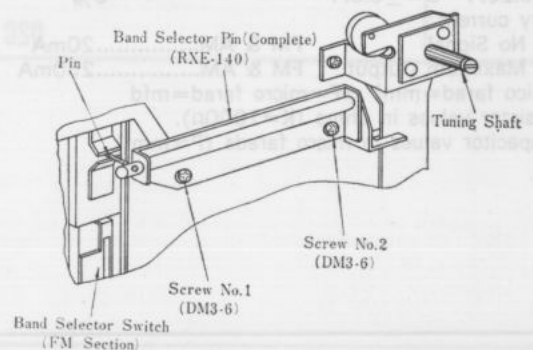

Fig. 4
2. Remove two (2) pin bracket mounting screws, Nos. 1~2, as illustrated in Fig. 4.